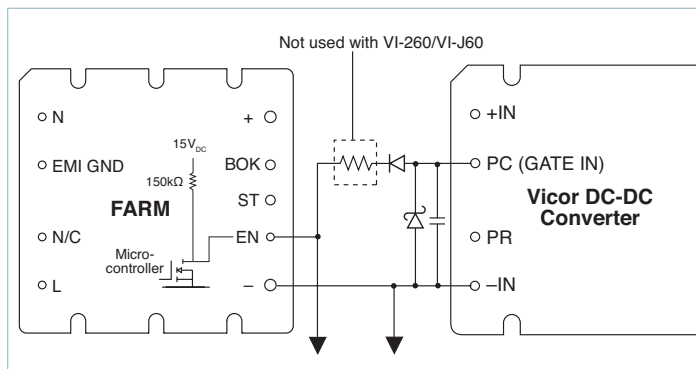

Figure 10 — Enable (EN) function
Enable (EN) Pin: (See Figure 10) The Enable pin must be connected to the PC or GATE-IN pin of all converter modules to disable the converters during power up. Otherwise, the converters would attempt to start while the hold-up capacitors were being charged through an unbypassed current limiting thermistor, preventing the bus voltage from reaching the thermistor bypass threshold, thus disabling the power supply. The Enable output (the drain of an N channel MOSFET) is internally pulled up to 15V through a 150kΩ resistor.